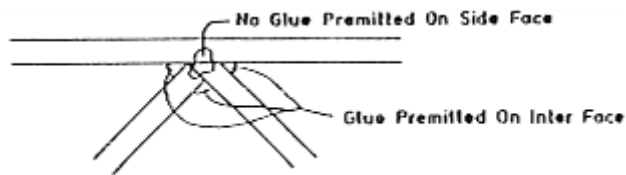

Figure 3
4. Glue may be placed **only** on the face of the joint being glued (See Figure 3). The bridge may **not** be painted, coated, or treated in any way. Glue may **not** be spread more than 1/8 inch beyond the glued joint.